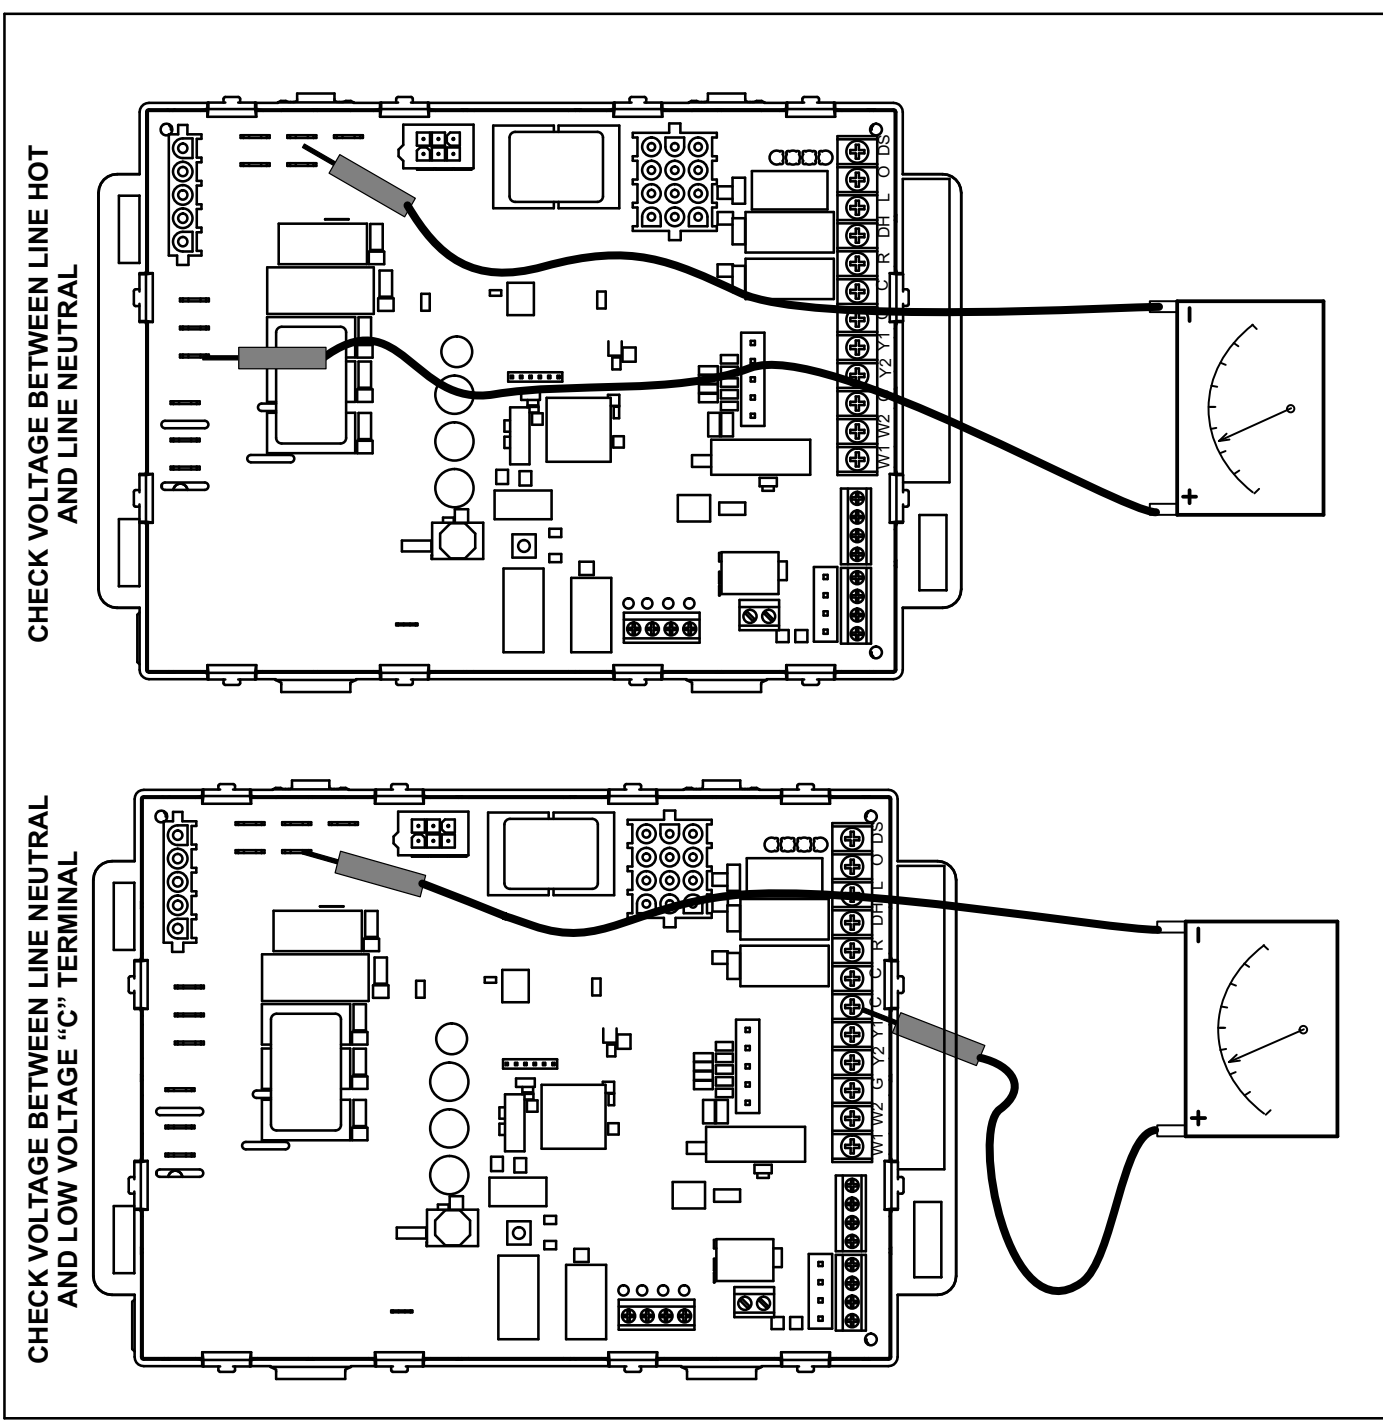

FIGURE 46
- 1 - Measure the AC voltage between Line Neutral (spade terminals) and "C" terminal (low voltage terminal block) on the integrated control. See figure 46. A wide variation in the voltage between Line Neutral and "C" as a function of load indicates a poor or partial ground. Compare the readings to the table below. If the read-
- 2 - In addition, measure the AC voltage from Line Hot to Line Neutral (spade terminals) on the integrated control. See figure 46. This voltage should be in the range of 97 to 132 Vac